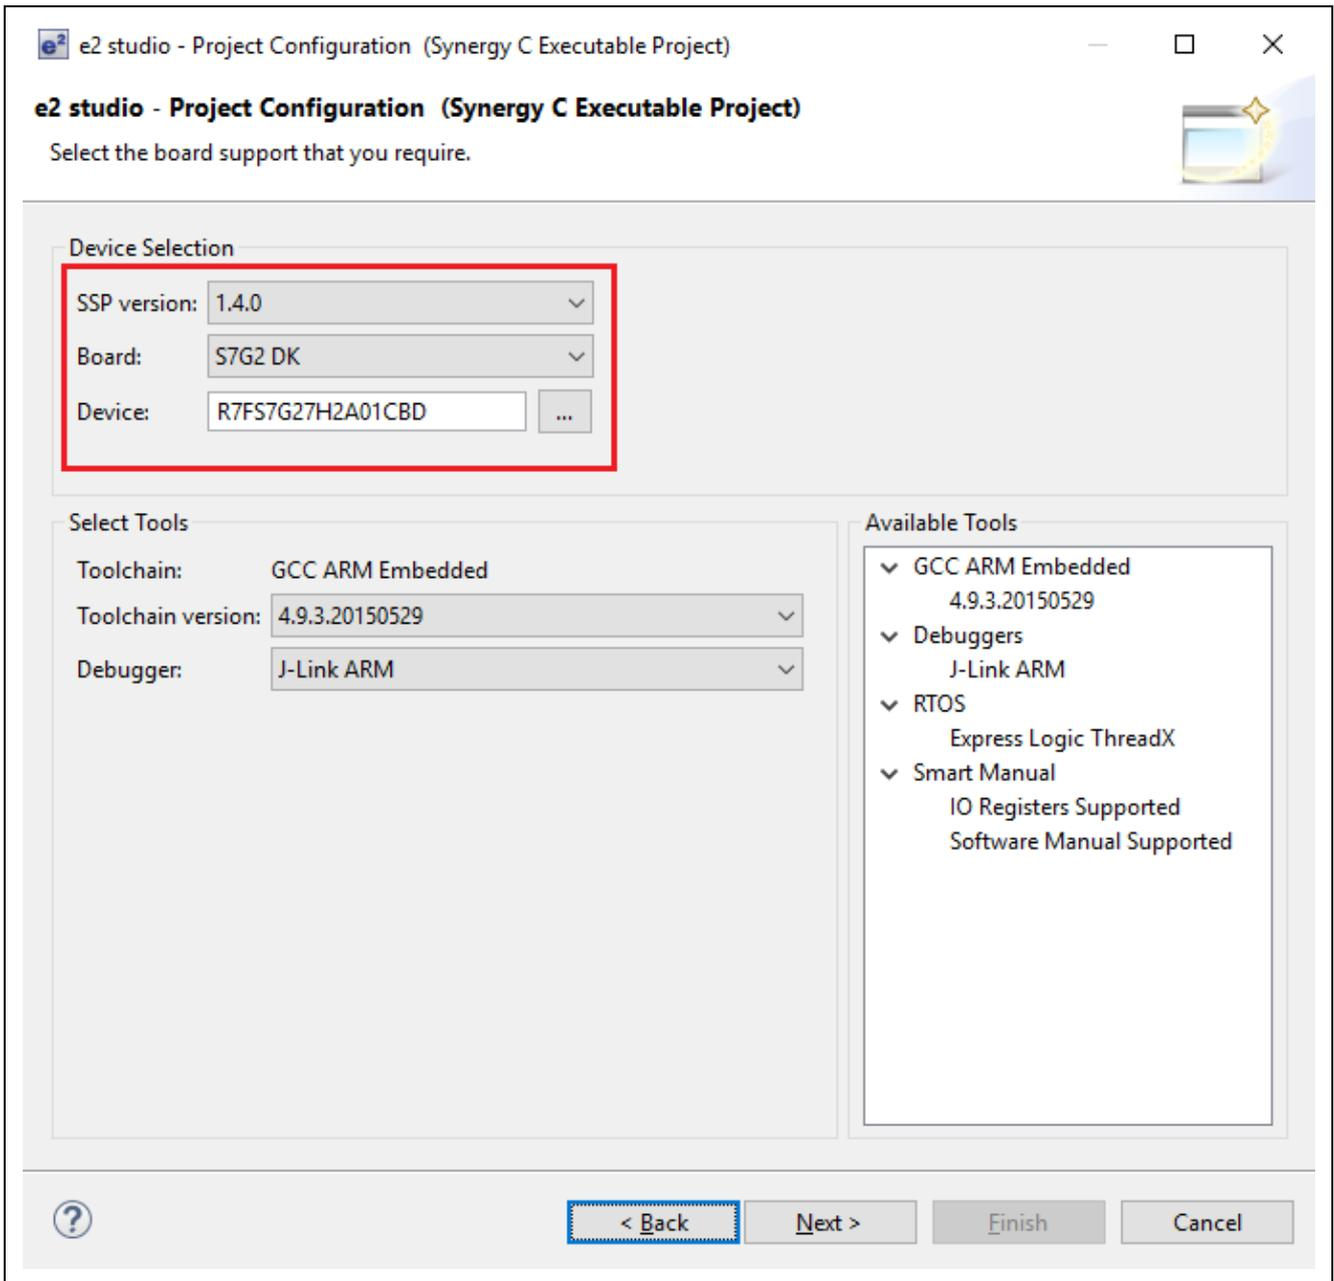

Figure 4 Selecting the board and device version
5. Make sure the SSP version and the board values are correct in the **Device Selection** (Figure 4). Click **Next** to continue.